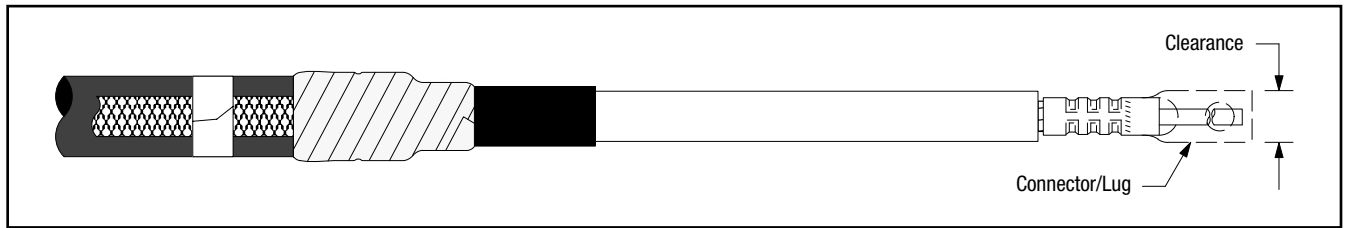

Figure 14
- 9.1 Check to insure the 3M™ Cold Shrink QT-III Silicone Rubber Termination assembly fits over the selected lug or connector. If lug or connector (*Figure 14*) will not fit through the termination core, clean the insulation (*per Step 10.0*) and slide termination on cable before installing lug or connector. **DO NOT REMOVE CORE AT THIS TIME.**